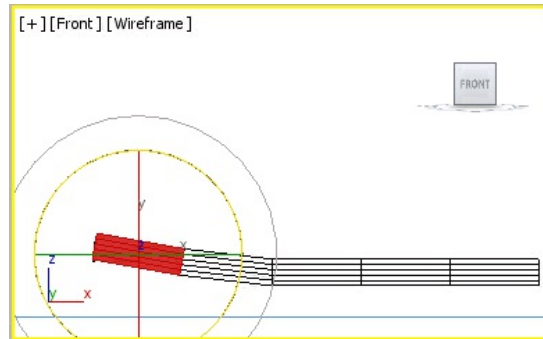

Figure 16-57 The *slider1* geometry after aligning the polygons
12. Activate the Front viewport and select the **Polygon** sub-object level and align the left polygons using the **Select and Move** and **Select and Rotate** tools, as shown in Figure 16-57.